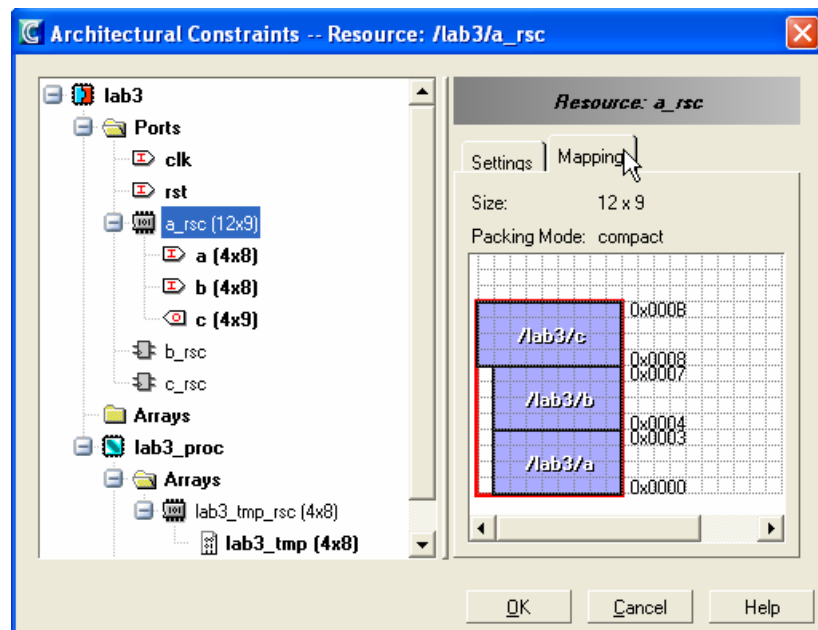

Figure 9 Combined RAM Address Mapping
- ✓ To see how the different variables have been mapped into a single RAM, click on the “a_rsc” resource and then click the mapping tab (Figure 9).